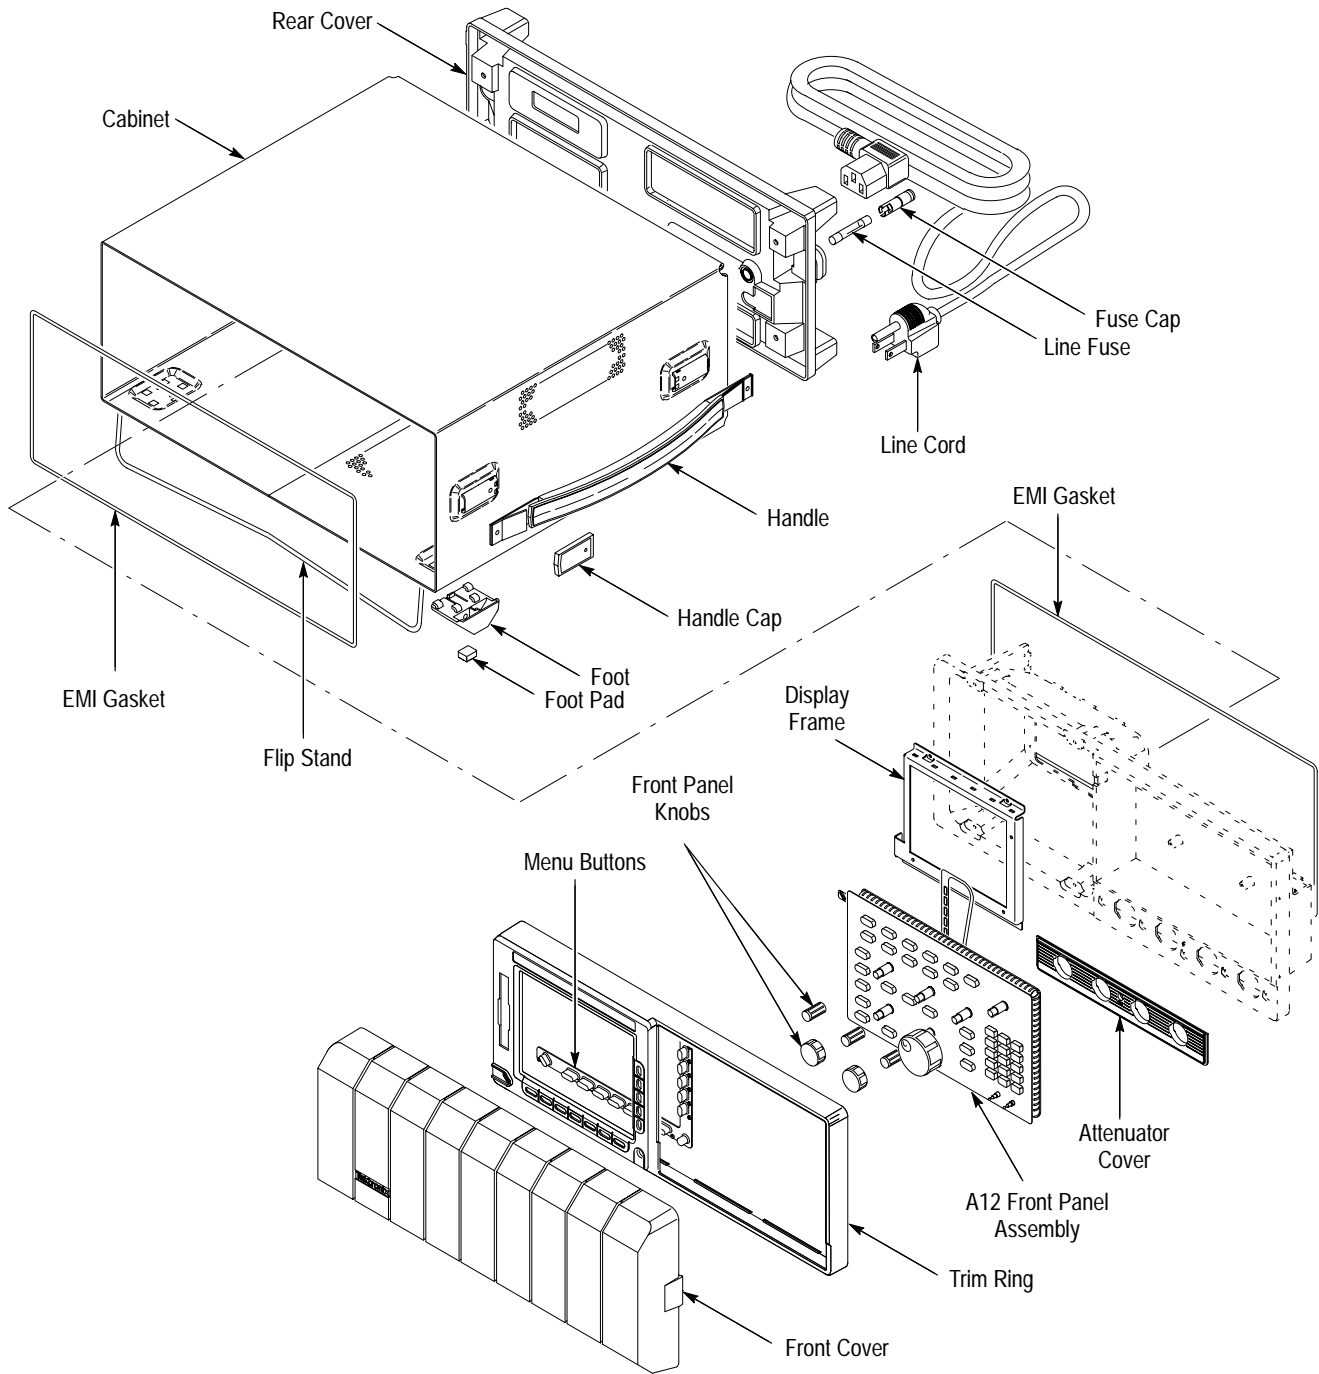

Figure 6-1: External Modules
1. *Assemble equipment and locate modules to be removed:* Have a flat-bladed screwdriver (Item 5) handy. Locate the line fuse and line cord in the locator diagram *External Modules*, Figure 6-1.
- c. Locate the rear cover and cabinet in the locator diagram *External Modules*, Figure 6-1.
- b. Locate the modules to be removed in the locator diagram *External Modules*, Figure 6-1.
1. *Assemble equipment and locate modules to be removed:* No tools are needed. Locate the modules to be removed in the locator diagram *External Modules*, Figure 6-1.